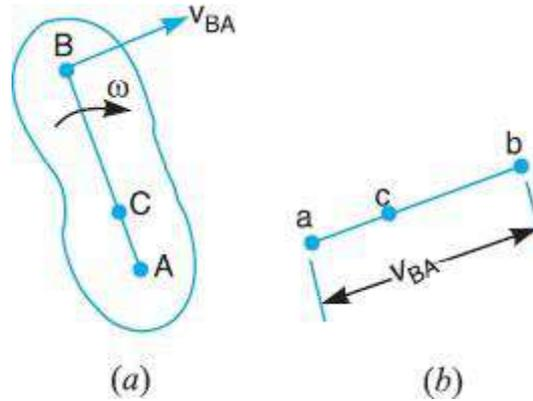

Fig. 3.3 Motion of a Link
- Consider two points A and B on a rigid link A B, as shown in Fig. 3.3 (a). Let one of the extremities (B) of the link move relative to A, in a clockwise direction. Since the distance from A to B remains the same, therefore there can be no relative motion between A and B, along the line AB. It is thus obvious, that the relative motion of B with respect to A must be perpendicular to AB.
- The relative velocity of B with respect to A (i.e.  $v_{BA}$ ) is represented by the vector ab and is perpendicular to the line A B as shown in Fig. 3.3 (b).